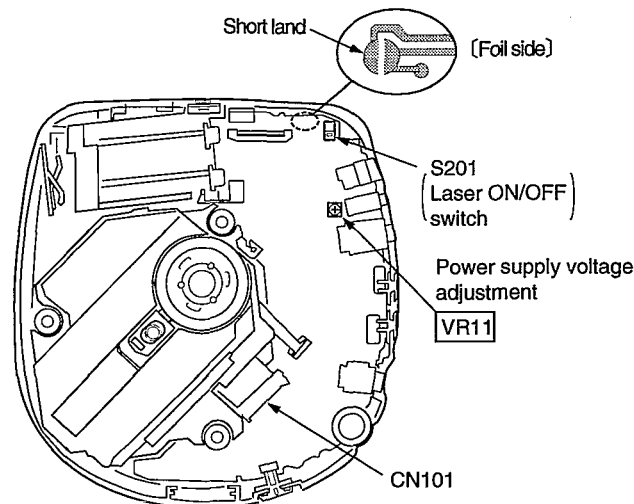

Fig. 1
Short-circuit the lands of the laser ON/OFF switch (S201) by soldering them. It turns "ON" position. (Refer to below **Fig. 1** or printed circuit board and wiring connection diagram for short land location on page 27.)
2. Take care to connect CN101 and CN102, as shown in **Fig. 1**.
4. Adjust **VR11** on the P.C.B. at 2.75 ± 0.02 V, as shown in Fig. 1.